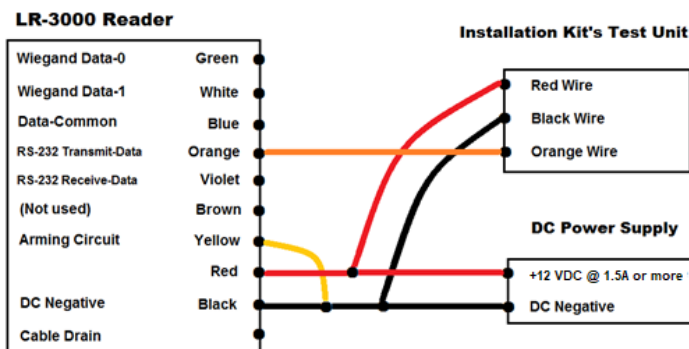

Figure 1. Connections for Pre-Installation Testing
4. One-person testing: Use the LR-Sounder from the LR-TEK Test/Demo Kit. The Sounder's beeper and LED let you detect reads at a greater distance. See Figure 1 (below) for this hook-up. Clip the **black**, **orange** and **red** leads to the LR-3000 reader.